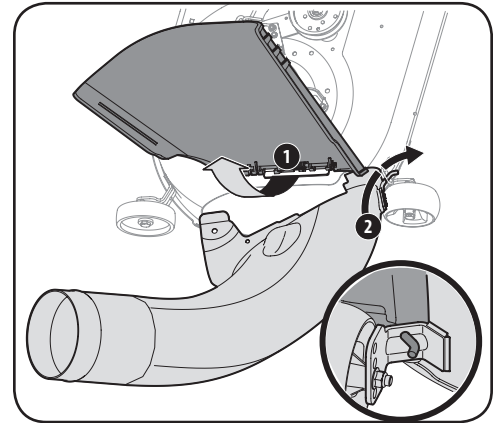

Figure 4-20
- With the tractor's discharge chute raised up and held open (1), install the chute elbow by placing the chute elbow mounting rod into the hole provided in either your deck wheel bracket or chute mounting tab (2), as shown in Figure 4-20.